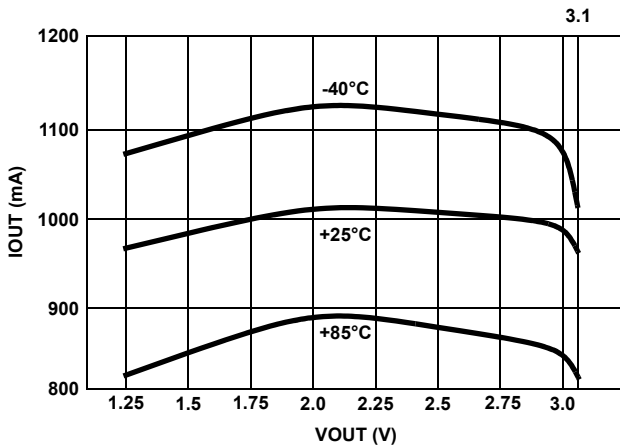
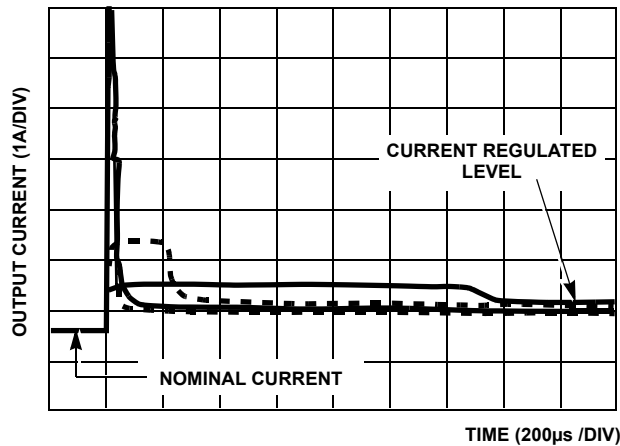
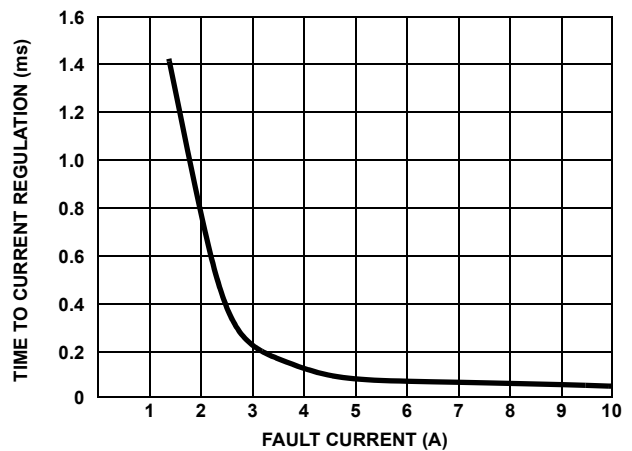

FIGURE 4. CURRENT REGULATION vs V_{out} ($V_{IN} = 3.3V$)
FIGURE 6. OC TO CR SETTLING TIME WAVEFORMS
FIGURE 7. CR SETTLING TIME vs FAULT CURRENT
The ISL6119 has integrated current sensing on the power MOSFET that allows for rapid control of OC events. Once an OC is detected the ISL6119 goes into its current regulation (CR) control mode. The ISL6119 CR level is set to a nominal 1A. This current regulation is $\pm 25\%$ over the full operating temperature and voltage bias range. See Figures 4 and 5 for illustrative curves. The speed of this control is inversely related to the magnitude of the OC fault. Thus a hard overcurrent is more quickly controlled than a marginal OC condition. See Figure 6 for waveforms illustrating this and Figure 7 for an accompanying graph.